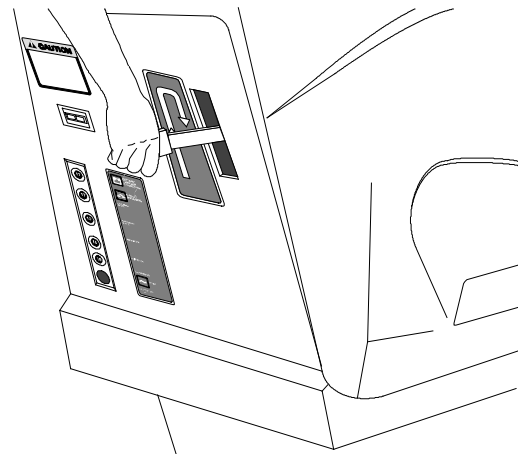

FIG. 5.
5. To lower the squeegee, lift the handle while pressing to the right, then lower to the floor. The vacuum motor will start when the handle is placed in the lowest position (Figure 5).